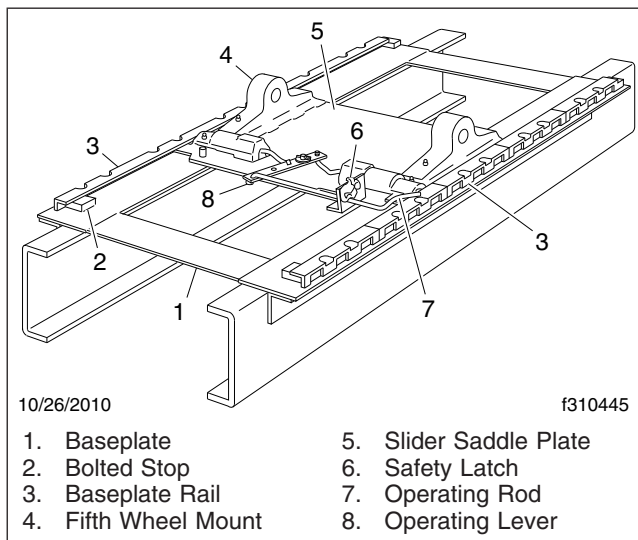

Fig. 17.13, Sliding Fifth Wheel Manual Release, (Holland Simplex)
- 2.2 **Holland:** Pull the operating rod out. Make sure both side plungers have released. See **Fig. 17.13**.